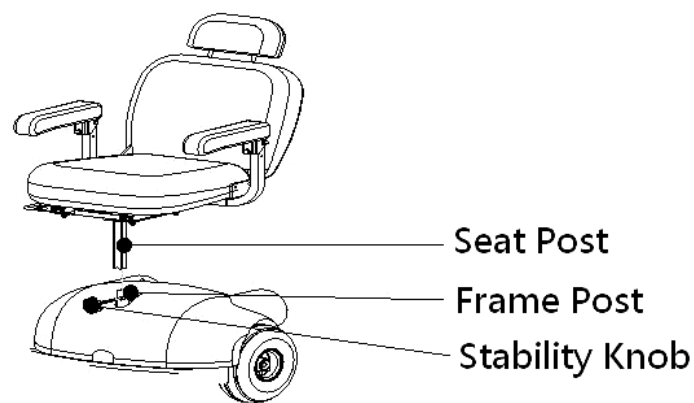

FIGURE 7.5
7.11.2 Pull up on the swivel lever and seat until it detaches from the frame post.(see Figure 7.5)